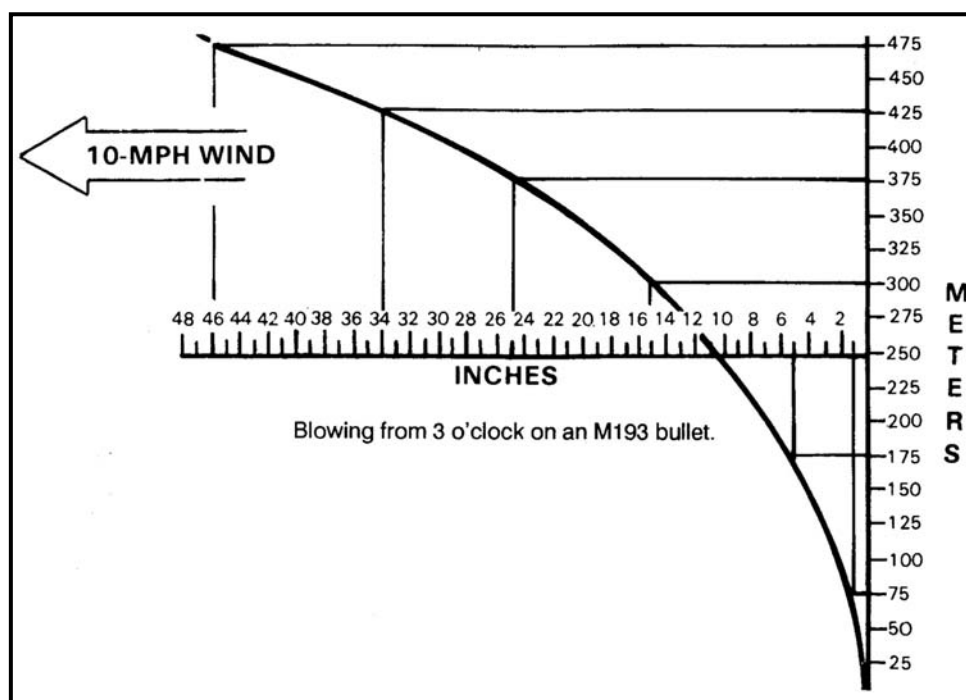

Figure 5-30. Calculate the adjusted aiming point based on wind speed.
d. **Adjusted Aiming Point Based on Wind Speed.** Figure 5-30 illustrates how the effects of wind on the bullet are similar to the effects of gravity—as range increases, the effect of wind increases. A 10-mile-per-hour full-value wind moves an M16A1 (M193) bullet from about 1/2 of an inch at 25 meters to about 15 inches at 300 meters. (Using the data presented in Table 5-3, wind effects for all conditions can be determined.) A wind of greater speed increases bullet movement by a uniform amount—a 15-mile-per-hour wind moves the bullet 3/4 of an inch at 25 meters and about 22.5 inches at 300 meters. A half-value wind would move the strike of the round in a 10-mile-per-hour wind 1/4 of an inch at 25 meters and 7.5 inches at 300 meters. (This chart can be used for M855 ammunition, also.)